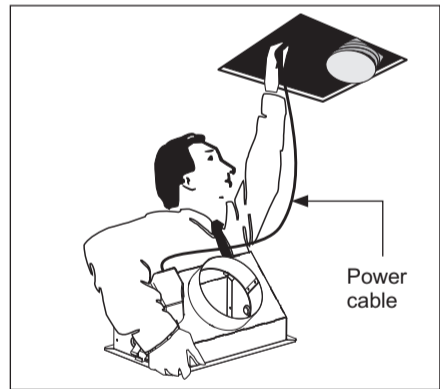

Fig. 22
3. Feed ducting and blower through hole in ceiling. While feeding ducting into ceiling direct it towards the installation position of the outlet grille. Position blower so that the short length of ducting and stripped wire (models 34101 & 34102) is sitting next to the hole as per Fig. 22.